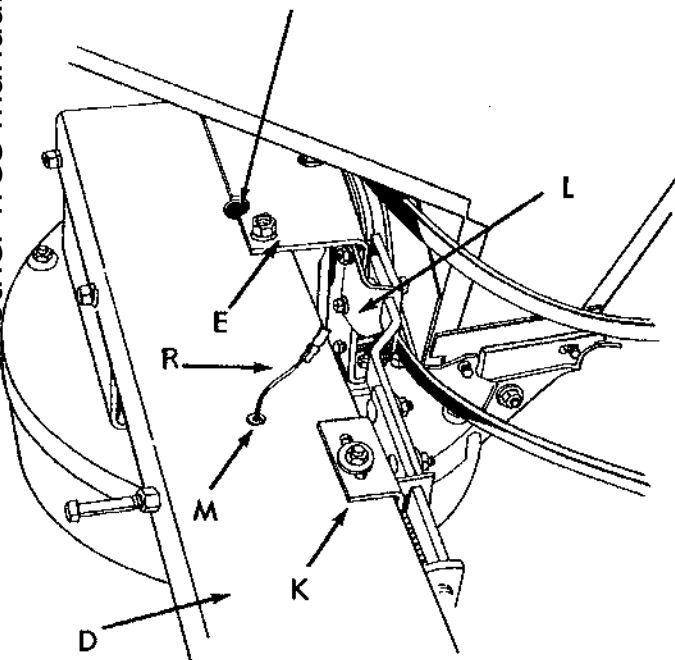

FIG. 3
5. Refer to Fig. 3. Place brake bar bracket-rear (K) on top of support channel and weld pins (D) as shown.
6. Assemble brake bar bracket-front (L) to hanger bracket R.H. (E), using 2-1/4 x 5/8 hex bolts, 1/4 lockwashers, and 1/4 hex nuts found in plastic bag. Tighten both bolts securely.
7. Secure brake bar bracket-rear (K) to top of support channel and weld pins (D) with 1-5/16 x 3/4 carriage bolt, 3/8 x 7/8 flat washer, and 5/16 hex nut. Bolt, washer, and nut will be found in plastic bag. Tighten nut finger tight only at this time. See page 9 for adjustment of brake.
8. Thread shorting wire-front (R), and rubber grommet (M) up through hole in mounting channel (D). Make sure rubber grommet (M) is in mounting channel (D) properly as shown in Fig. 3.